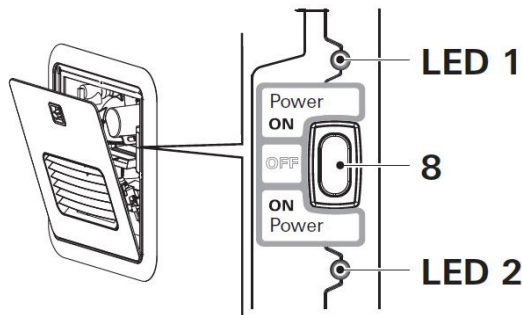

Fig. 8
2. To switch on the appliance, switch the POWER switch (Fig. 8 – 8) to one of the two “ON” positions.
When the green power ON LED 1 (Fig. 8 – LED 1) is lit, the appliance is switched on.
If the red error code LED 2 (Fig. 8 – LED 2) is lit / flashes, there is a fault or warning (refer to “APPENDIX A – Error Codes” in manufacturers booklet).
3. Switch off the appliance at the POWER switch (Fig. 8).
- The green Power-ON LED 1 (Fig. 8) extinguishes.